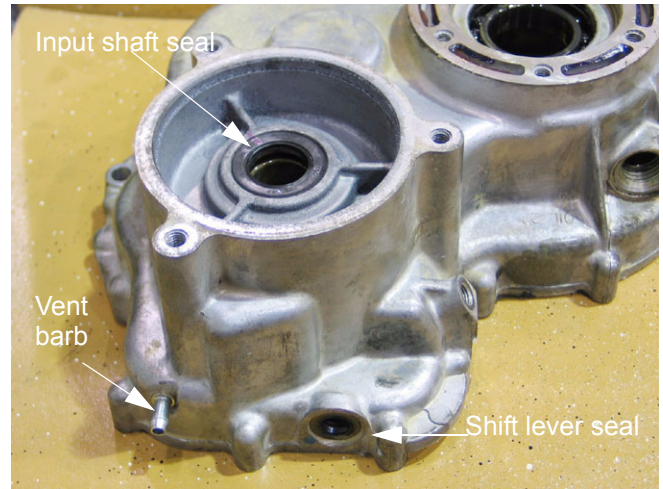

Figure 9.49
9.49. Remove and discard the input shaft seal and the shift lever seal. Replace them with new seals. See Figure 9.49.